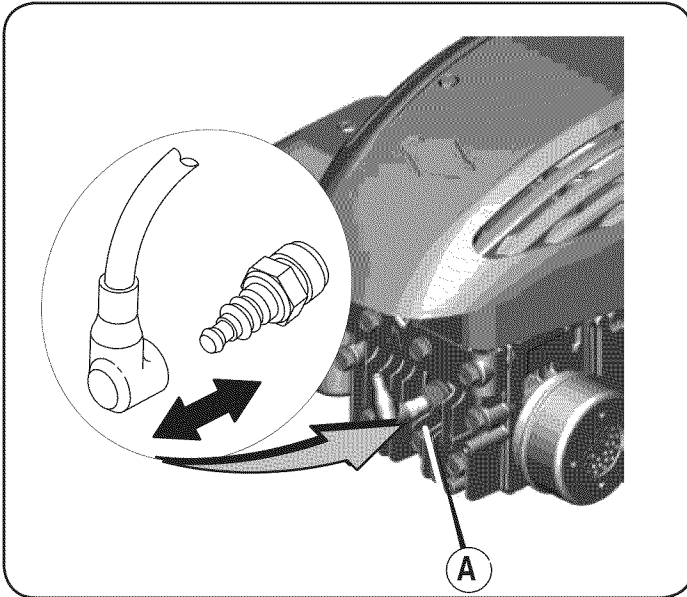

Figure 15
1. With the engine off, remove the spark plug. See Figure 15.
1. With engine off but still warm, disconnect the spark plug wire (A) and keep it away from the spark plug. See Figure 15.